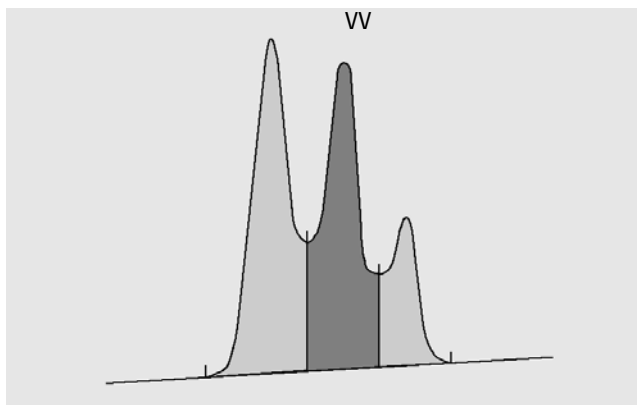

Figure 11 Area Measurement for Valley-to-Valley Peaks
- for valley-to-valley (VV) peaks, the area above the baseline, segmented with vertical dropped lines from the valley points, as in Figure 11 on page 33,